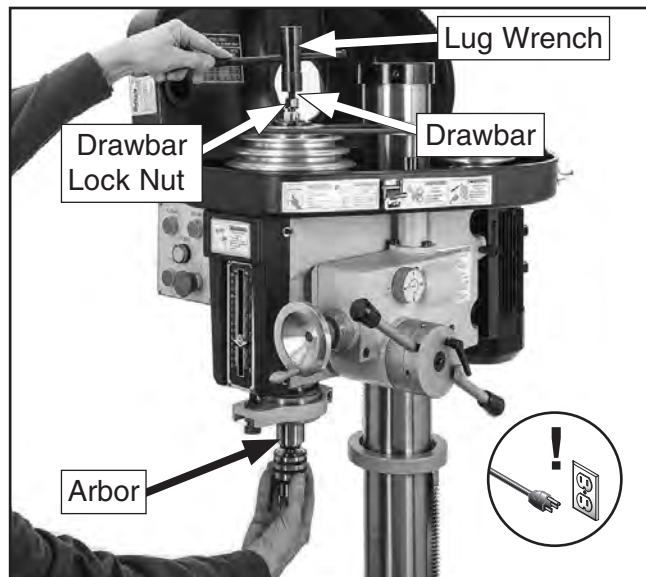

Figure 21. Threading drawbar into collet/arbor to install tooling.
4. Align tooling alignment slot (see **Figure 21**) with pin inside spindle, then insert tooling into spindle until it contacts drawbar.
Note: Drawbar height inside spindle can be changed by rotating the drawbar lock nut (see **Figure 21**).
—If drawbar bottoms out in tooling and will not tighten further before tooling is tight in spindle, tighten drawbar lock nut (see **Figure 21**) to secure tooling in spindle.